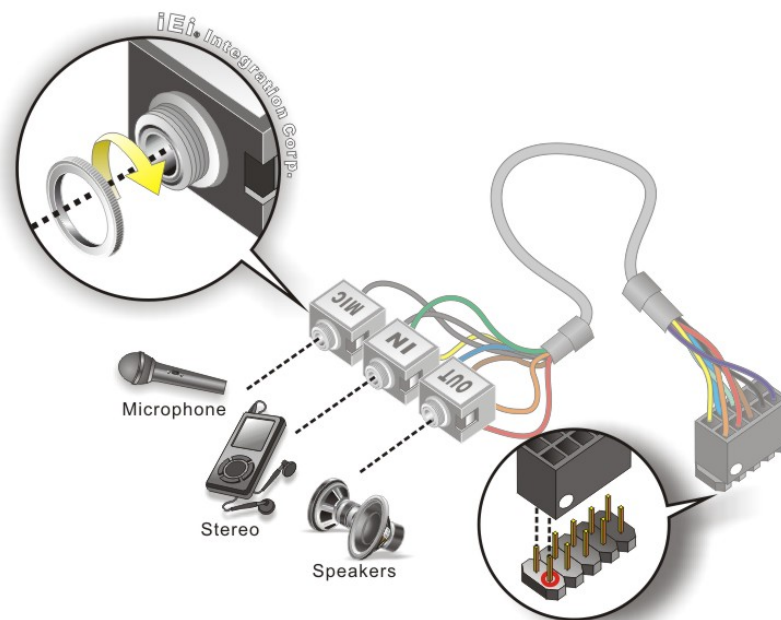

Figure 4-15: Audio Kit Cable Connection
Step 2: **Align pin 1.** Align pin 1 on the on-board connector with pin 1 on the audio kit connector. Pin 1 on the audio kit connector is indicated with a white dot. See Figure 4-15.